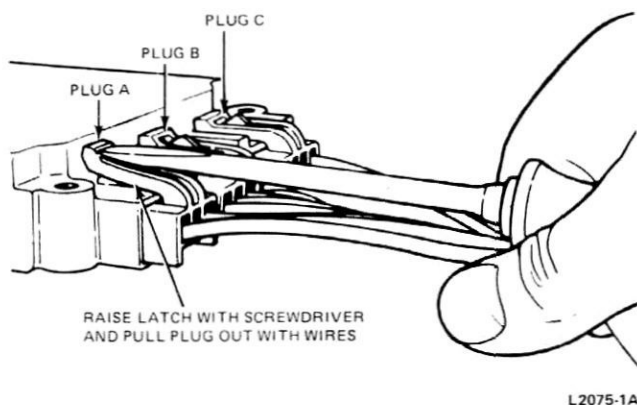

FIG. 8 Removing Sensor Plug From Computer Module
1. Remove sensor plug A from the computer module (Fig. 8).